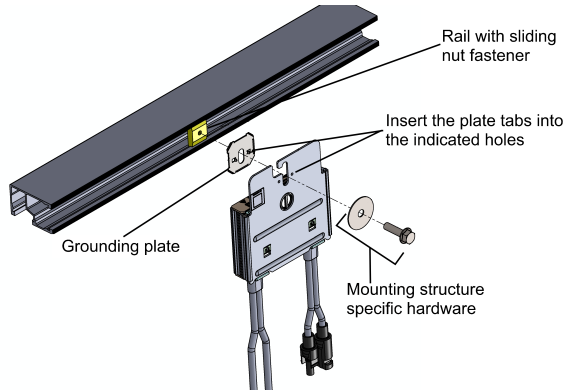

Figure 6: Power optimiser installation and grounding using a grounding plate
- **For mounting on rails with sliding nut fasteners:** If the star washer cannot be used, use the SolarEdge grounding plate (purchased separately) between the railing and the flat side of the mounting bracket. Use mounting specific hardware as needed. Apply torque of 9.5 N*m / 7 lb*ft. See Figure 6